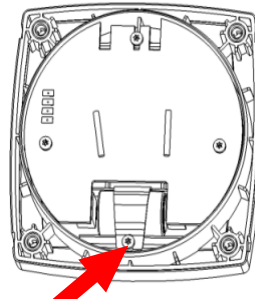

Figure 3
4. Unscrew the battery fixing screw (*fig. 3*)